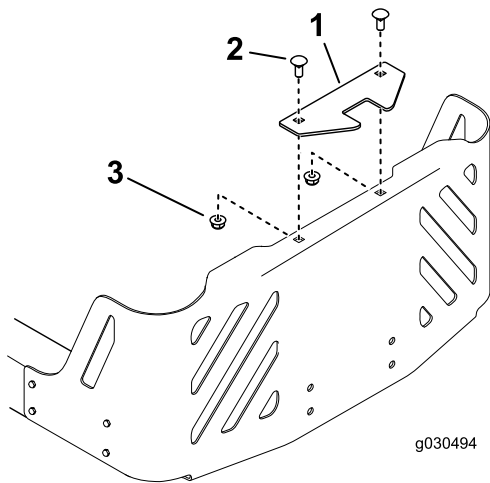

Figure 10
Note: Use the stabilizer bracket only on 2015 and newer models (Figure 10).
1. Install the stabilizer bracket to the engine guard using 2 carriage bolts (5/16 x 3/4 inch) and 2 locknuts (5/16 inch) as shown in Figure 10.